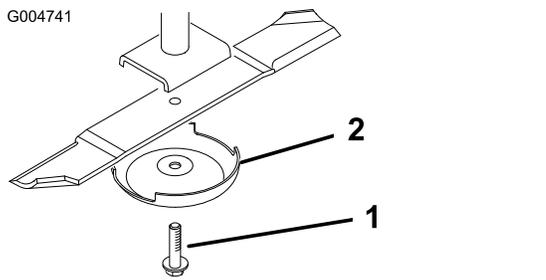

Figure 90
3. Remove the blade bolt, anti-scalp cup, and blade from the spindle shaft (Figure 90).